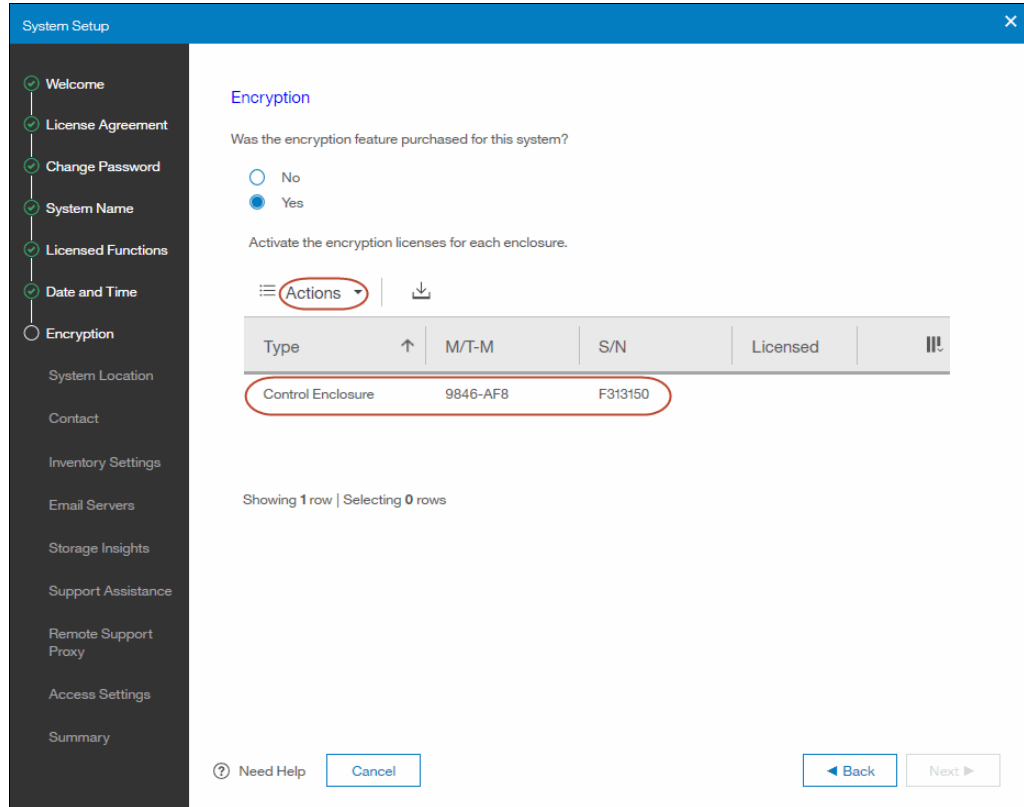

Figure 6-91 Activating the encryption feature license
1. Select the enclosure for which the encryption feature is to be activated (Figure 6-91).
2. Select **Actions** → **Activate License Manually** (Figure 6-91).